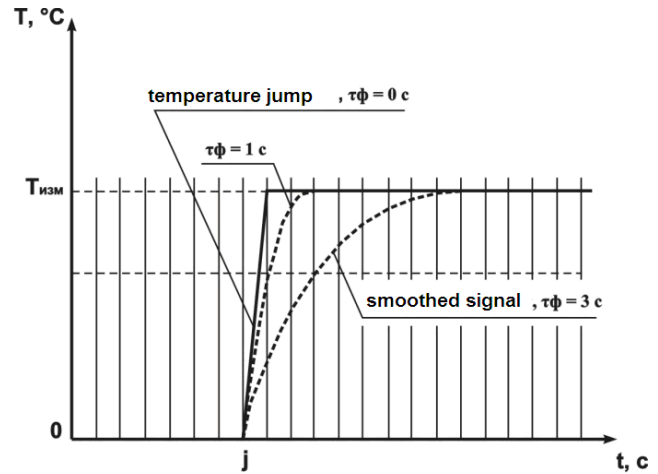

Figure 3.6
3.2.4.2 The digital filter eliminates the noise signal components by smoothing it exponentially. The main characteristic of the exponential filter is $\tau\phi$ – the digital filter time constant, Ft_1 (Ft_2, Ft_3, Ft_4) interval, within which the temperature reaches the 63,2% from measured value $T_{изм}$ (Figure 3.6).